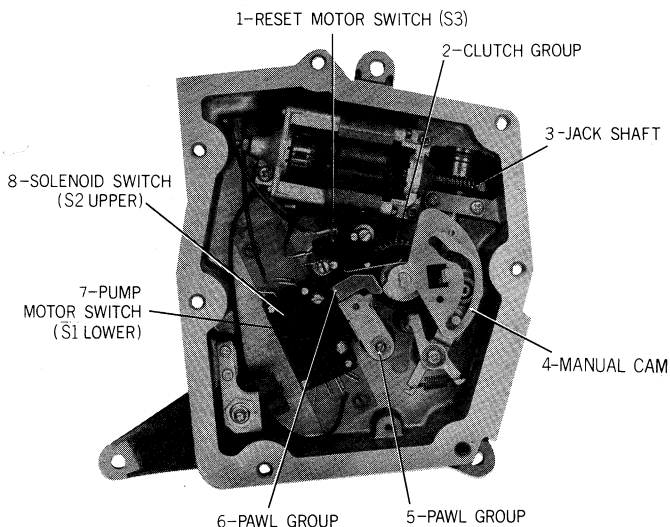

Figure 1. Series 7269 Electric Reset Parts Identification.
### A. SERIES 7269 ELECTRIC RESET. Figure 1.
1. General. The electric reset, Figures 1, 2 and 4, contains three switches.
### 4. Reset Motor Switch (S3) Replacement, item 1, Figure 1:
### C. CLUTCH GROUP REPLACEMENT – SERIES 7269 ELECTRIC RESET. Figure 1.